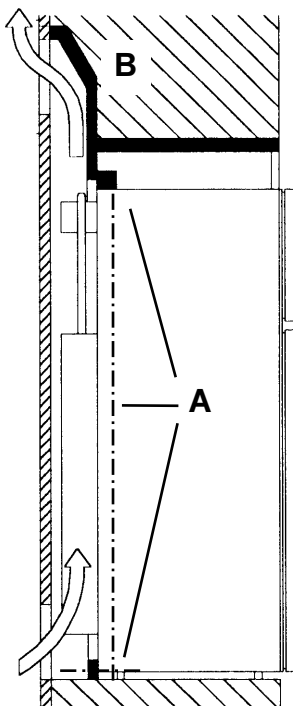
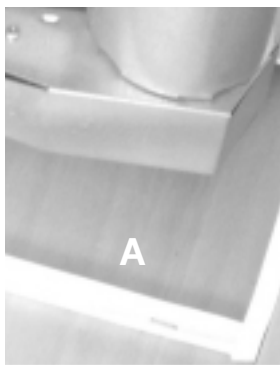

FIG. 1
FIG. 2
Insert lipped seals (A) into the installation recesses at the bottom and at each side (FIG 1, 2, 3).
In addition, discharge plate (B) with its lipped seal (A) must seal the refrigerator off from the living area (see FIG. 1,4).
The unit is ventilated through openings in the wall or roof of the vehicle. (Fig. 1 and Fig. 2). Fresh air enters at the bottom and the warmed air flows off through the upper ventilation grille (flue effect). The side walls of the ventilation shaft should be local to avoid the build up of condensation and drafts. The parts of the shaft walls, which are situated above and next to the exhaust for the combustion gases, must be made of highly inflammable material. The **upper** ventilation grille should be positioned as high as possible above condenser (**A**) (**observe minimum ventilation heights**). The **lower** ventilation grille should be **flush with the floor of the vehicle**, allowing any gas leakages (heavier than air) to escape directly into the open air. If such an arrangement is not possible a hole must be provided under the refrigerator (not close to the burner) so that any leaking LP gas can escape. This must have an effective area of at least 13cm². It is desirable to fit the hole with wire mesh or similar, and an angle plate to protect it from stones, mud etc., the wire mesh must not reduce the effective area of 13cm² (EN1949). **The ventilation grilles must have a free cross section of at least 400cm².** Here it should be noted that protective insect nets behind the ventilation grilles can reduce the free cross section by up to 50%.